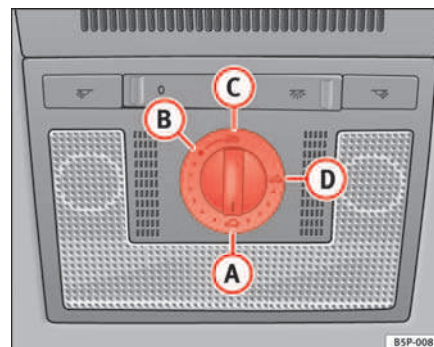

Fig. 71 Detail of the sunroof: rotary button for sliding/tilting sunroof
- Turn the rotary button to position  ⇒ fig. 71 ⇒ .